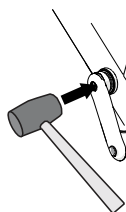

Figure C2
3. Use a rubber mallet to lightly tap the crank at the axle point onto the bottom bracket axle (Figure C2).